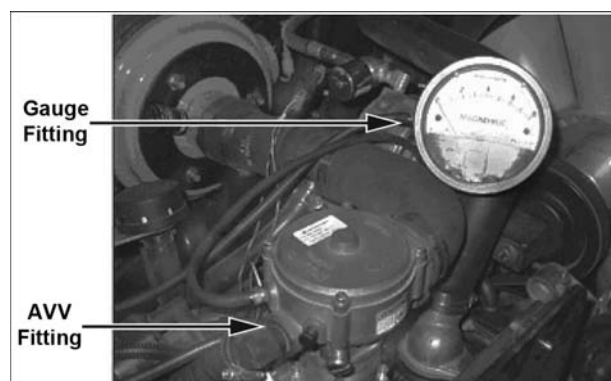

Figure 37. Magnehelic Gauge Connection
1. Install Union Tee fitting in the hose between the FTVs and the AVV fitting. Connect this fitting to the low pressure port of the Magnehelic gauge (Figure 37).
2. Leave high pressure port of the Magnehelic gauge exposed to ambient pressure (Figure 37).